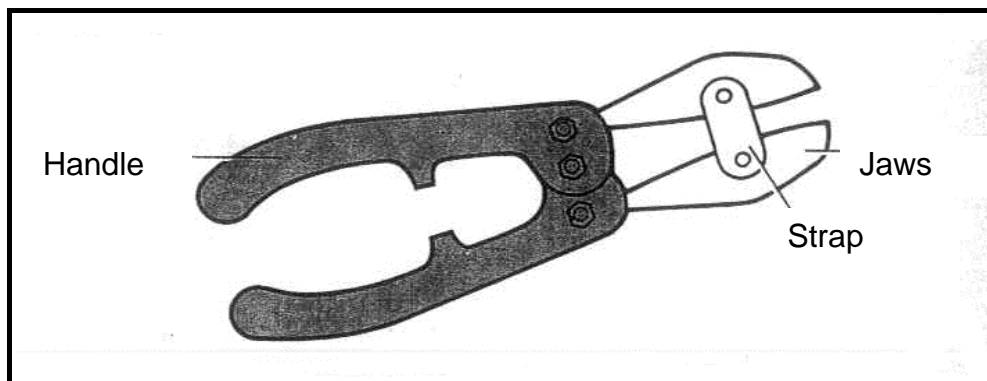

FIGURE 4.4
- 4.4 The high-tensile bolt cutter shown in FIGURE 4.4 was assembled from several components.